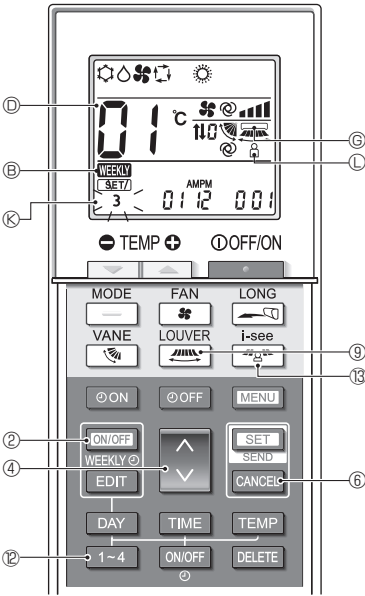
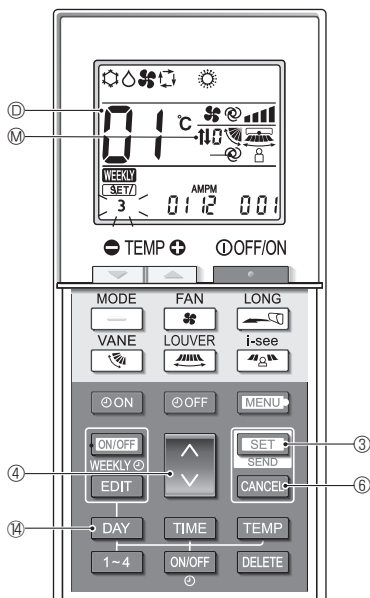

Fig. 6-4
Fig. 6-5
6.5. Separate setting mode 2 (Fig. 6-4, Fig. 6-5)
6.6. Completing the setting (Fig. 6-5)
- Hold down the **SET** button ③ for 5 seconds.